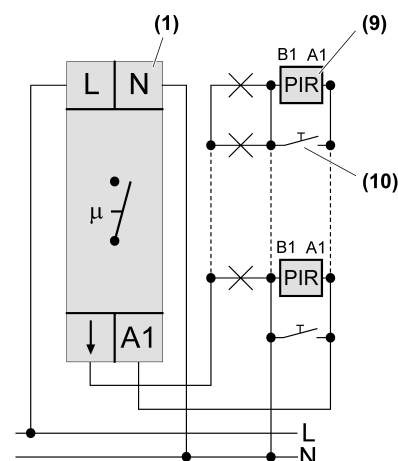
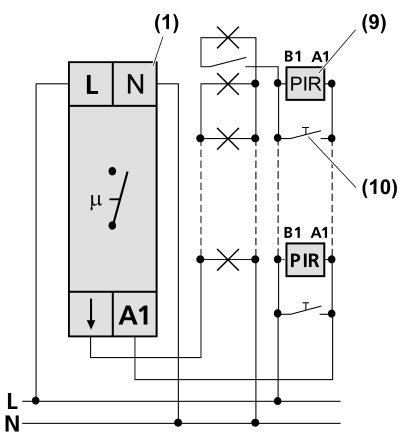

Figure 3: Connection diagram for 3-conductor circuit
Figure 4: Connection diagram for 4-conductor circuit
The automatic RMD can be used for a 3-conductor circuit (Figure 3) or a 4-conductor circuit (Figure 4). The 4-conductor circuit has the advantage that an additional luminaire can be switched separately.
- Connect automatic RMD, pulse insert (9) and installation button according to connection diagram (Figure 3) or (Figure 4).